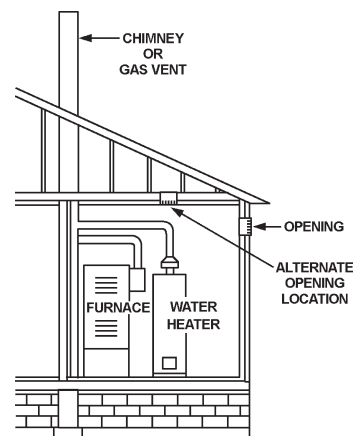

FIGURE 13
- Alternatively a single permanent opening may be used when communicating directly with the outdoors, or with spaces that freely communicate with the outdoors. The opening should have a minimum free area of 1 square inch per 3,000 BTU per hour (8.3 cm²/kW) of total input rating of all equipment in enclosure. See Figure 13.